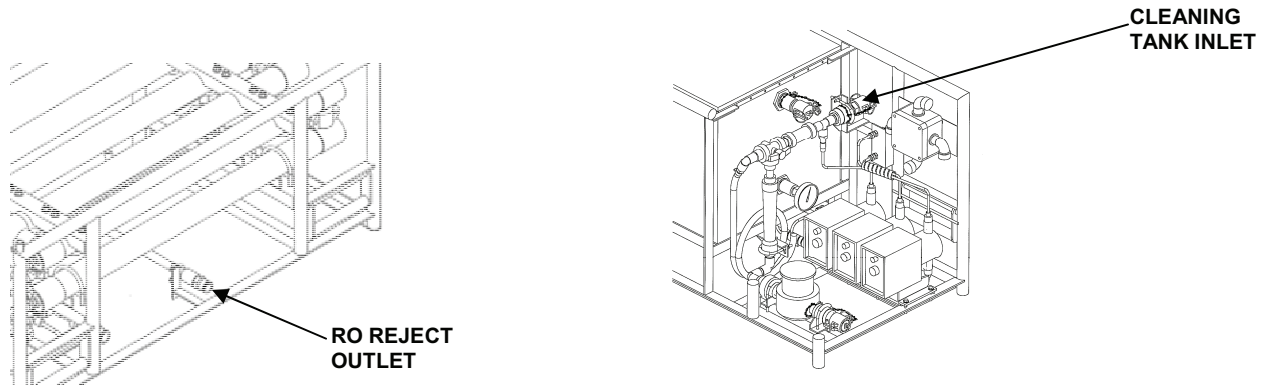

Figure 7. RO Module Reject Circulation Connections.
21. Connect the RO reject hose (red) from the RO reject outlet to the cleaning tank inlet fitting. See Figure 7.